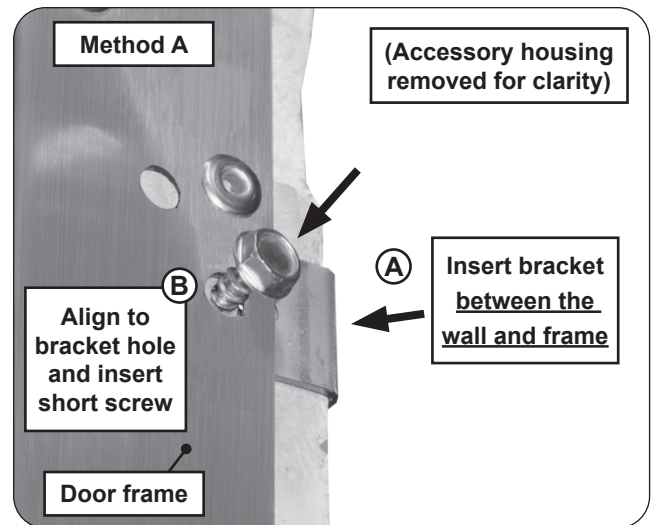

Fig. 2-1 Method A install detail
1. Use the 4 open holes closest to the interior on left and right sides of the frame (see Fig. 2-1). Reach from within the enclosure and insert a bracket where a cutout exists, **between the wall and door frame**. See Fig. 2-1, A.
2. While holding the rear of the bracket and the front of the frame **firmly** against the concrete wall, align a bracket hole to the frame's hole cutout and insert a supplied short hex screw. Tighten the hex screw with a power drill and $\frac{5}{16}$ " hex driver (see Fig. 2-1, B). DO NOT OVERTIGHTEN.